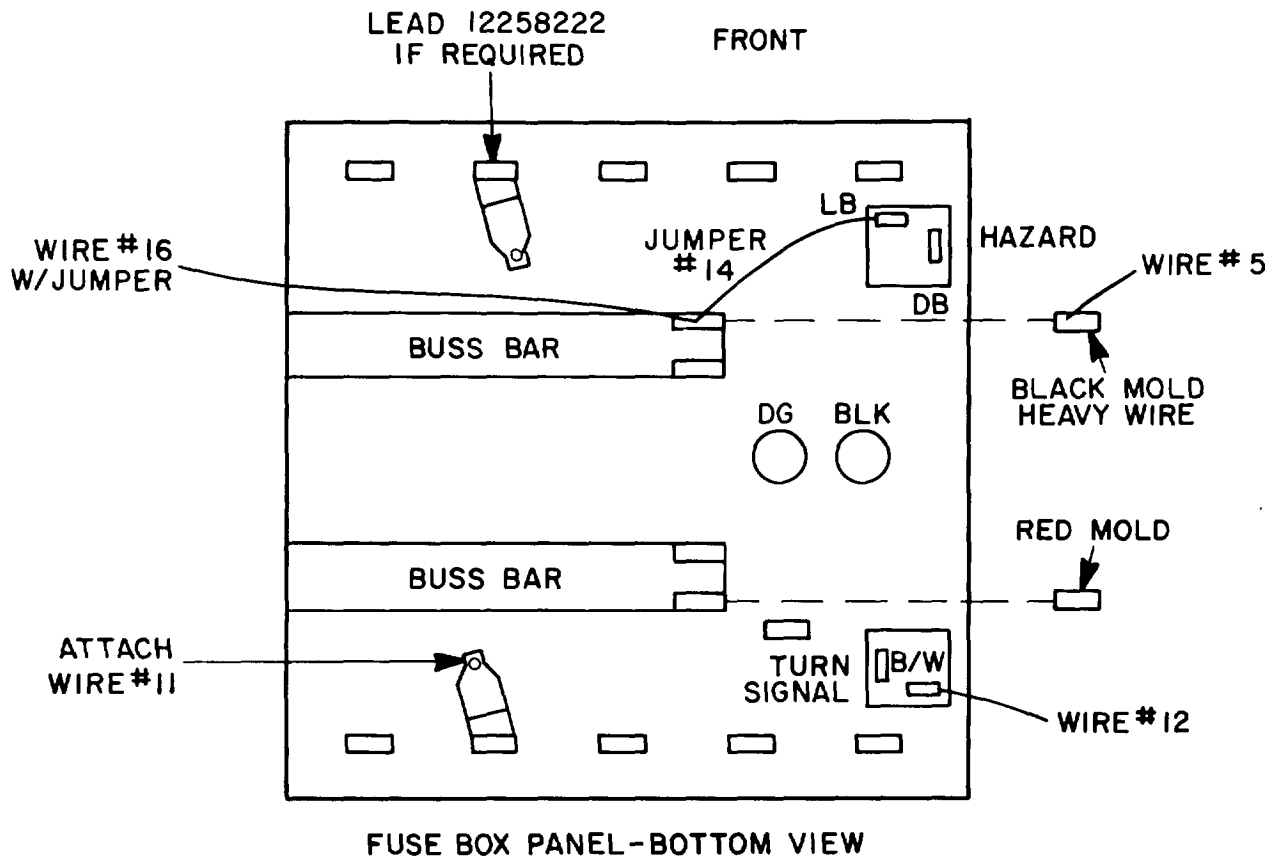
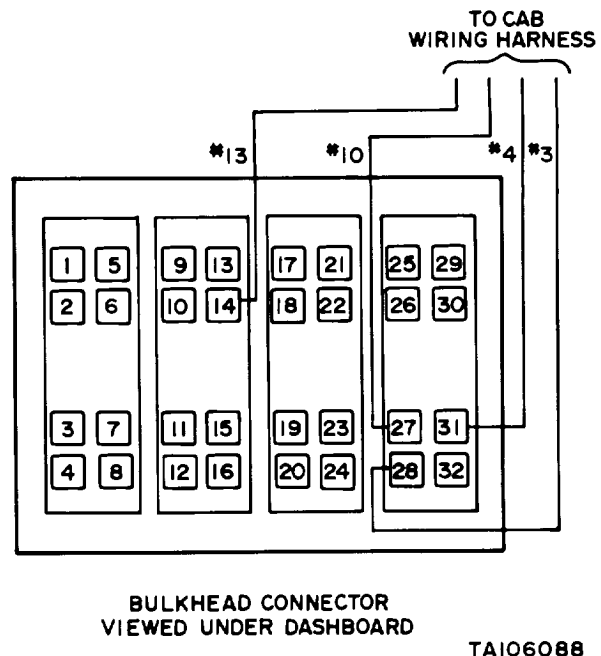

Figure 25-1. Fuse Panel.
Figure 25-6. Bulkhead Connector.
(26) Remove the light blue (LB) wire from the hazard warning terminal (figure 25-1) and connect in its place wire 14 of harness. Remove terminal from light blue wire and tape wire end securely.
(27) Connect wire 11 to fuse panel terminal as shown in figure 25-1.
(28) Remove black/white wire from the turn signal flasher terminal and replace with wire 12 from the harness.
(29) Remove terminal from black/white wire and tape wire end securely.
(30) Securely tape the terminal of wire 17 if not required and leave disconnected.
(31) Connect male terminal of lead 12258222 to spotlight wire and tape connection securely.
(32) Route spotlight lead along existing cab harness to vehicle fuse panel and connect female lead to terminal as shown in figure 25-1.
(33) Reinstall fuse panel.
(34) Separate bulkhead connector (located under the hood at extreme left of firewall).
(35) Depress locking tang of receptacle 14 by inserting a thin, narrow tool into groove of plastic connector of bulkhead connector receptacle (figure 25-6).